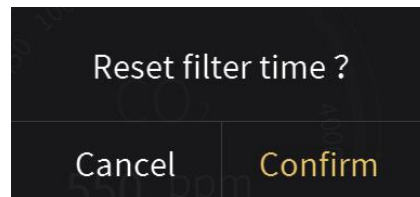

Fig.2.6.5
to be 0%. When touch icon⑧, the filter time can be reset, as shown in Fig.2.6.5 below. After clicking “Confirm”, the filter timer value can be reset to 100%.